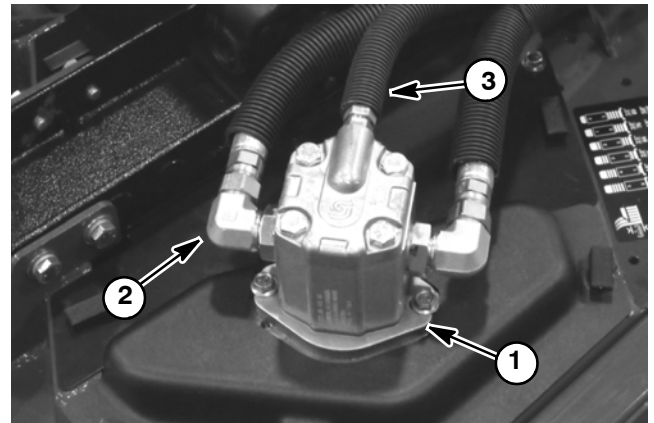

Figure 40
2. Disconnect hose from return of the motor to be tested (Fig. 40). Install tester (flow and pressure) in series with the motor and disconnected return hose. Make sure the flow control valve on tester is fully open.